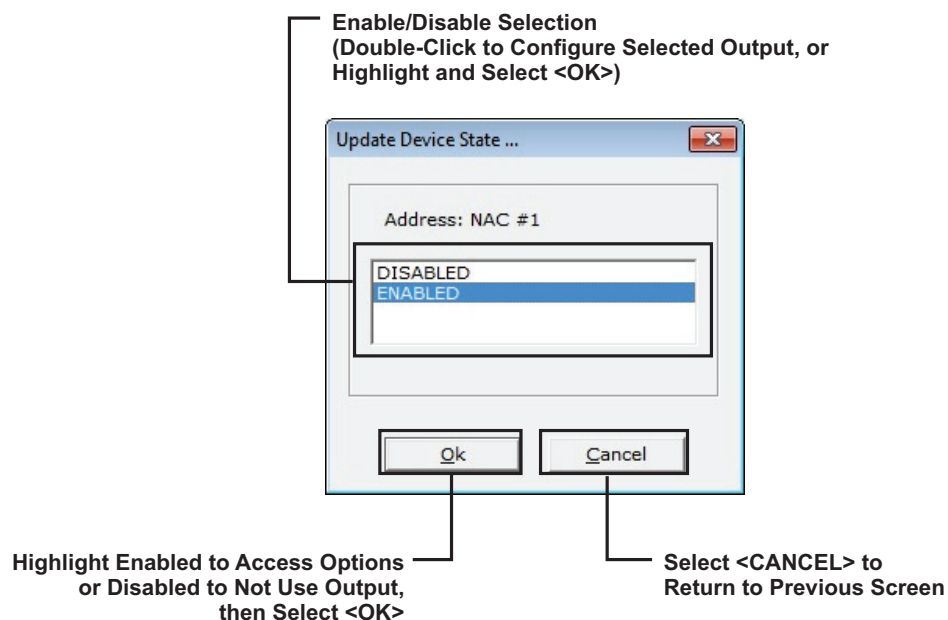

Figure 2-33. Access Options Screen for Control Unit-Based Outputs
2. Select the circuit by double-clicking on the circuit name in the type column. Figure 2-33 displays.